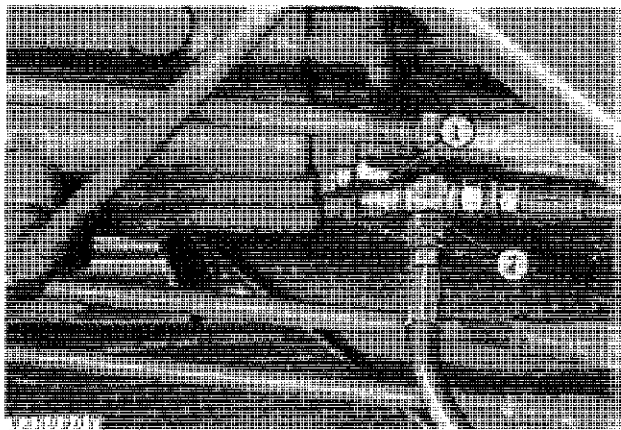

Fig. 22-Changing Valve Connections
1. Remove cap from center outlet (Fig. 22) of main control valve.